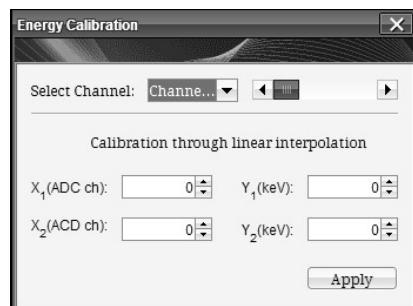

Fig. 7.11: Energy Calibration window
- **“X-Axis Unit” menu:** for Energy plot mode only, selects the unit of measurement of the Energy x-axis in the histogram between “ADC Counts” and “KeV”. In order to define a KeV scale, the “Calibrate” button opens the Energy Calibration window (**Fig. 7.11**) where it is possible to calibrate the spectrum by a dedicated menu: a customized Calibration line can be built here. Different calibration lines are available for the different channels;